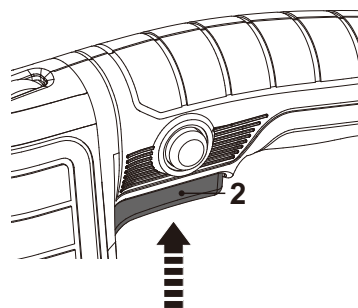

Fig. 10
- > Switch the product on by pressing the on/off switch (2) (Fig. 10).
- > Switch the product off by releasing the on/off switch (2).